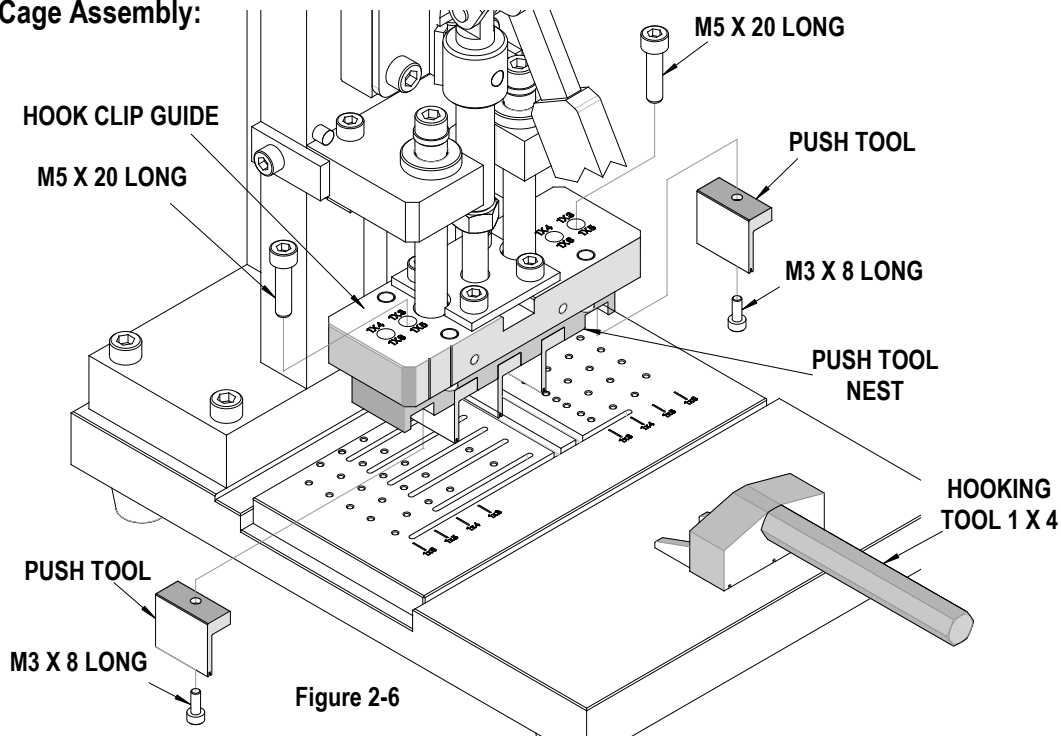

Figure 2-6
1. With the Toggle Clamp in the down position remove the Hook Clip Guide by removing the two (2) M5 screws.
2. Remove one (1) Heat Sink Push Tools and the M3 by 8 screws from right side and (1) one from the left side of the Push Tool Nest. See Figure 2-6.